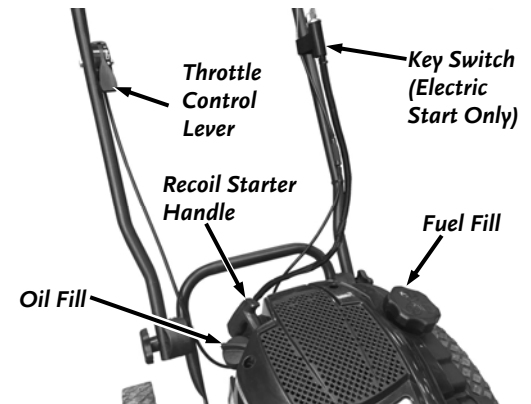

Figure 10
1. Check the oil level every time you use the DR TRIMMER/MOWER (**Figure 10**).
1. Push the Throttle Control Lever all the way forward to the Run  position (**Figure 10**).
- If the engine fails to start after TEN (10) seconds of continuous cranking, turn the key to the off position and allow the starter motor to cool. Check the cause of hard starting; See Chapter 5 - Troubleshooting.